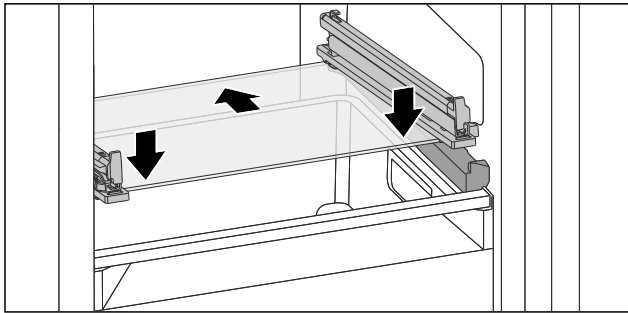

Fig. 105 Tilting drawer glass shelf
- ▶ Position glass shelf at an angle behind the stoppers. (see Fig. 105)